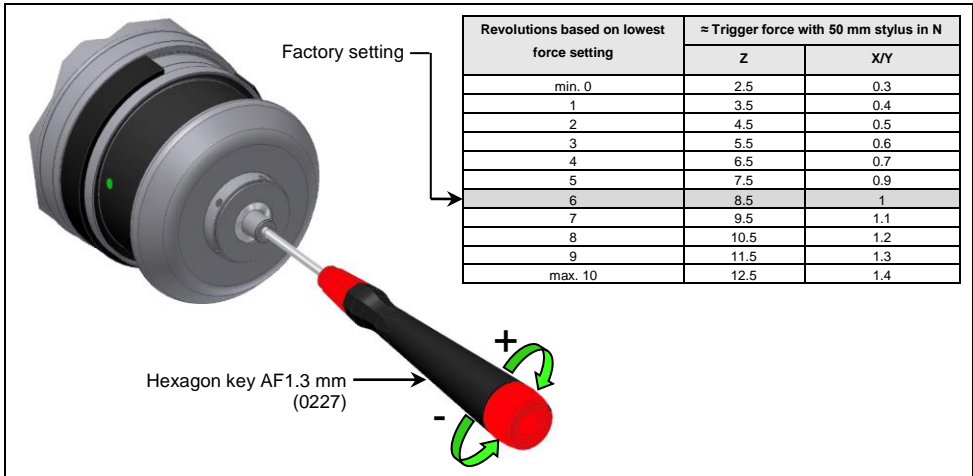

Fig. 17 Adjusting trigger force
2. Increase or decrease the trigger force with a hexagon key AF1.3 mm (refer to Fig. 17).